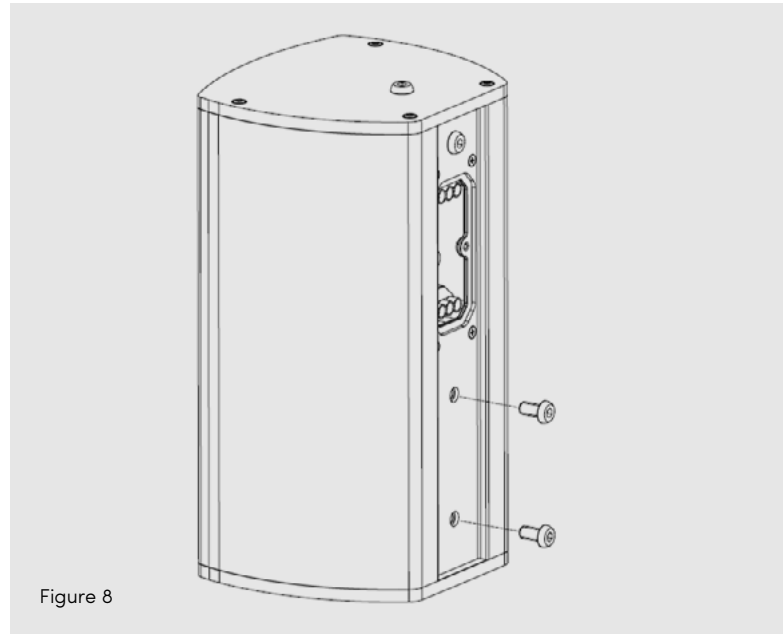

Figure 8
1. Remove the two M6 oval-head screws that are located underneath the connector panel. SEE FIGURE 8.